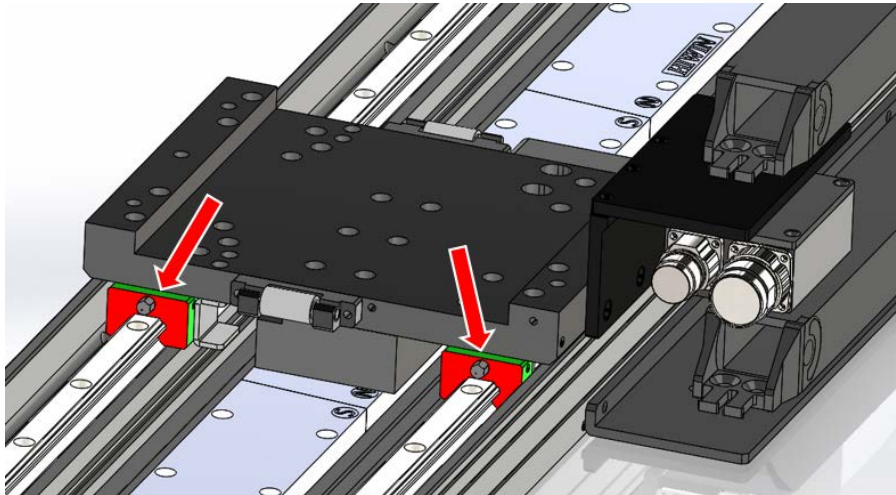

Fig. 7.3 Grease nipples on linear guideways
- Relubrication as standard through grease nipple (See Fig. 7.3) with standard grease guns.